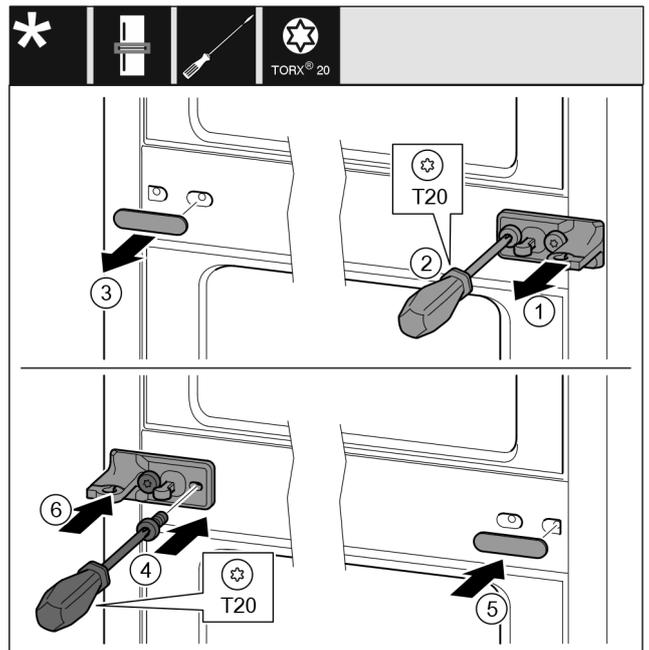

Fig. 43
- ▶ Remove the washer Fig. 43 (1).
- ▶ Unscrew screws Fig. 43 (2) with screwdriver.
- ▶ Remove the cover Fig. 43 (3) carefully.
- ▶ Turn the bearing block with film Fig. 43 (4) by 180° and screw it tight on the other side.
- ▶ Turn the cover Fig. 43 (5) by 180° and attach to the other side.
- ▶ Slide on the washer Fig. 43 (6) from the front.